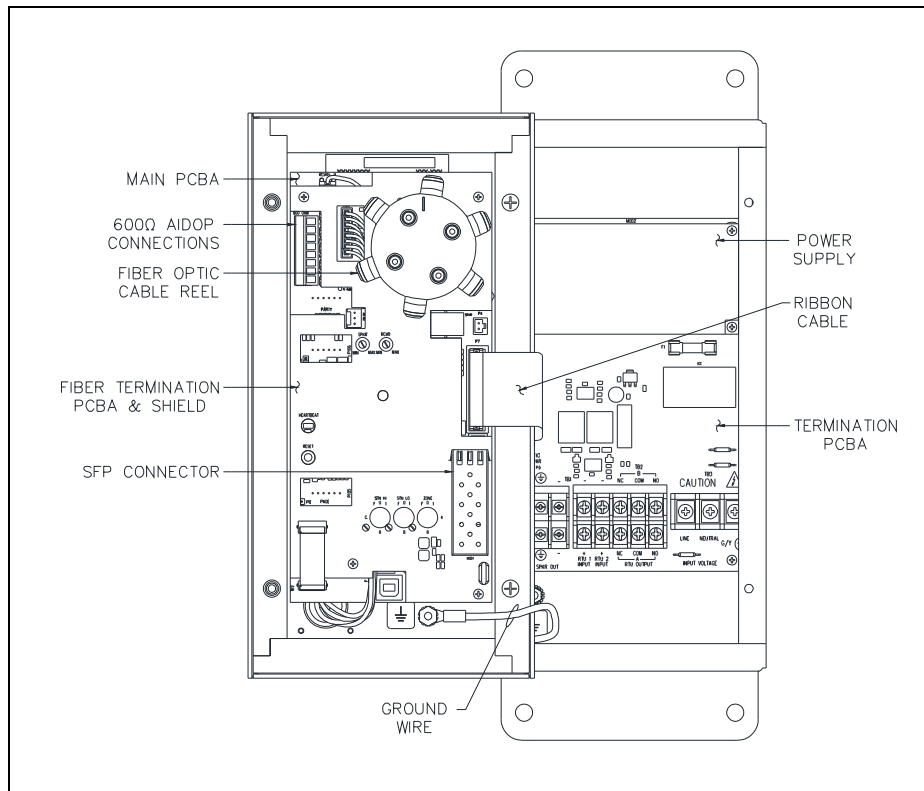

Figure 12. Class I Div. 2 Fiber SP2 Station—Interior View
3. Mount the front panel to the rear enclosure using two of the screws just removed (see Figure 12).